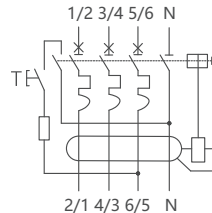

Figure 4. Wiring diagram
7.3.4 Product wiring diagram, see Figure 4.